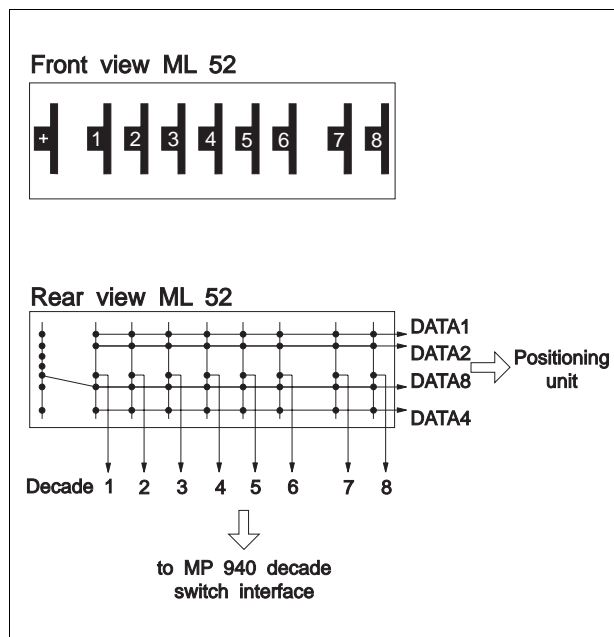

Fig. 6-3 ML 52 decade switch block wiring
The decade switch block is wired and connected to the unit as evident in figures 6-3 and 6-4.
2. In case the ML 52 decade switch block is used, this must be connected to the positioning unit and MP 940 as shown in fig. 6-3.